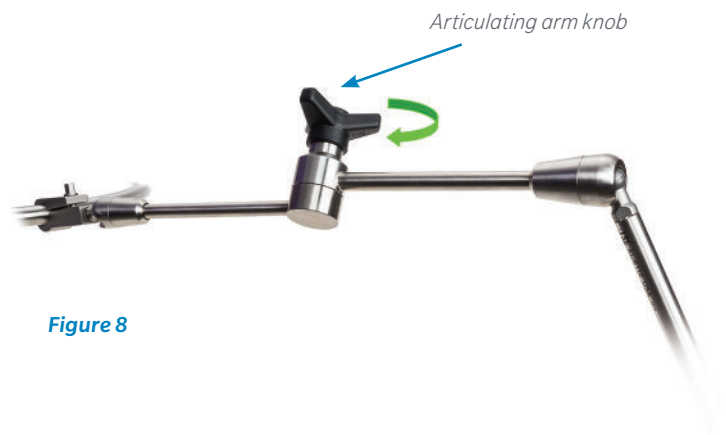

Figure 8
- Adjust the two articulating arms to position the retractor ring as desired (Figure 8). To prevent movement of the retractor ring, ensure that the knobs of the articulating arms are completely tightened.